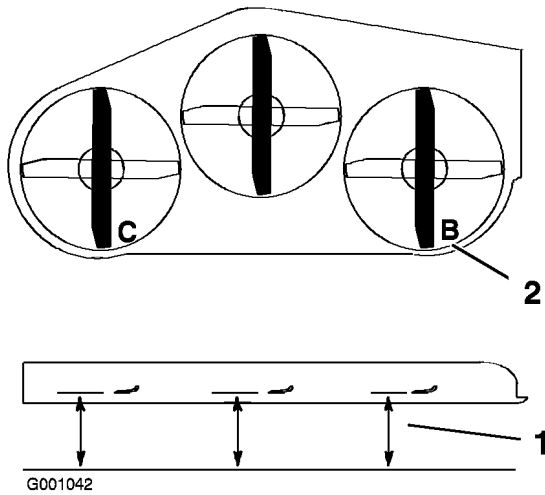

Figure 59
1. Position the right blade front-to-rear (Figure 59).
2. Measure the right blade at the **B** location, from a level surface to the cutting edge of the blade tip (Figure 59).
4. Position the left blade front-to-rear (Figure 59).
5. Measure the left blade at the **C** location (Figure 59), from a level surface to the cutting edge of the blade tip .